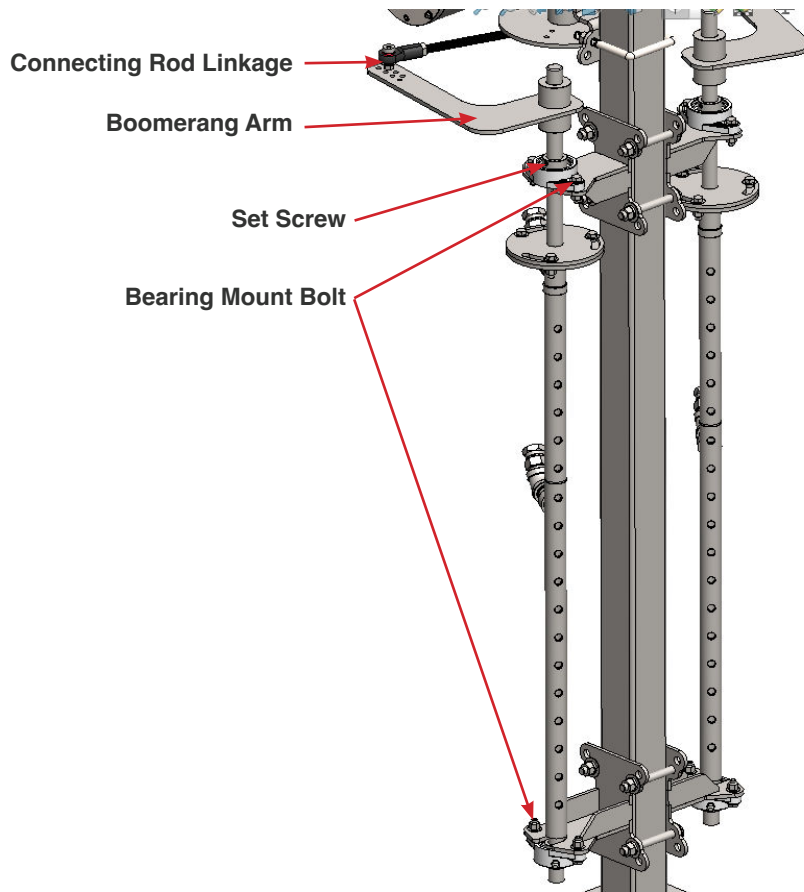

Fig. 7.1.1 - 1 - Replacing flange bearing
3. Loosen the set screw on the bearing (Fig. 7.1.1 - 1).